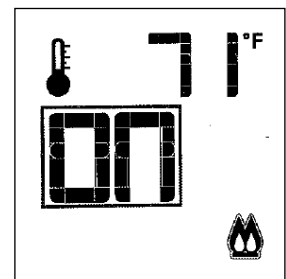

Figure 8.16. Split Flame.
- The Burner is activated by using the Mode Key to select the Split Flow icon. Press the Up Arrow Key to turn it ON. Fig. 8.16. Press the Down Arrow Key to turn it OFF. A single “beep” will confirm reception of the command.